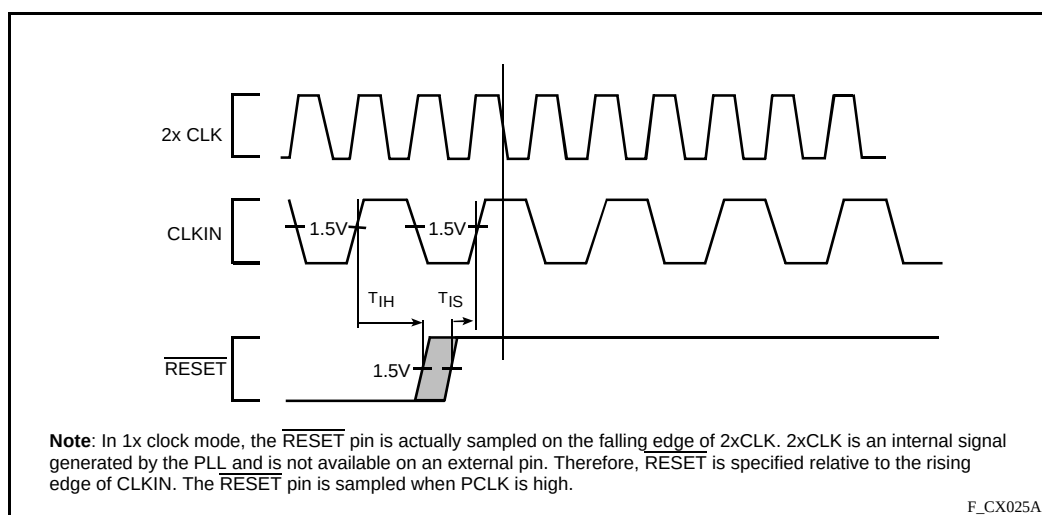

Figure 23. Clock Synchronization in the 1-x Clock Mode
- In 1-x clock mode, $\overline{RESET}$ is an asynchronous input which has no required setup and hold time for proper operation. However, to guarantee the device exits reset synchronized to a particular clock edge, the $\overline{RESET}$ pin must meet setup and hold times to the rising edge of the CLKIN. (See Figure 23.)